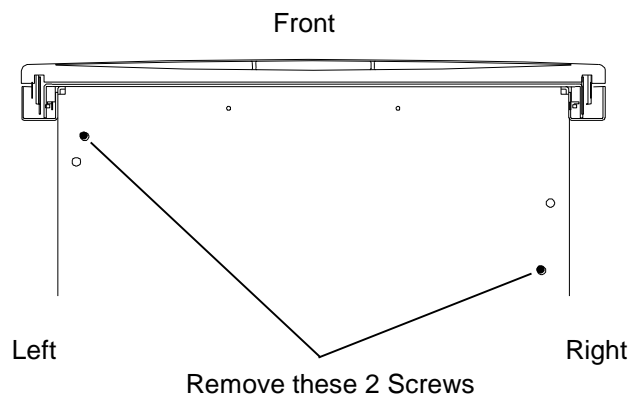

Figure 7-5 Bottom View of the RLS showing the Carriage Assembly Screws
4. If the RLS is not rack-mounted, slide it forward far enough over the edge of the table so that the Carriage Assembly screws located on the bottom of the library can be accessed. See Figure 7-5.
5. There are only two screws on the bottom of the RLS that secure the Carriage Assembly. Use a No. 2 Phillips screwdriver to remove the rear screw on the right side and front screw on the left side as shown in Figure 7-5.
4. Using a No. 2 Phillips screwdriver, replace the two Carriage Assembly flat-head screws removed earlier from the bottom of the chassis. See Figure 7-5. The heads of these screws must be flush with the chassis bottom.